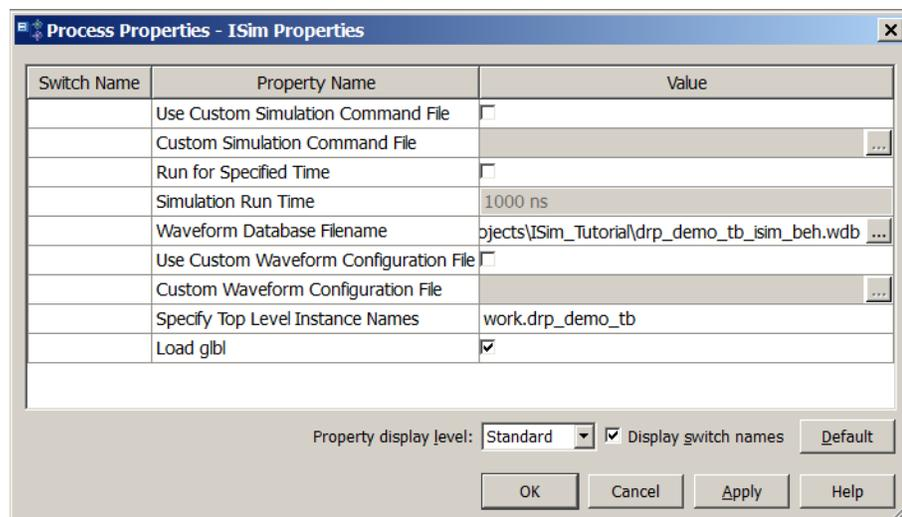

Figure 2-8: ISim Properties Dialog Box
- Right-click **Simulate Behavioral Model** under the ISim Simulator process and select **Process Properties**. The ISim Properties dialog box opens (Refer to Figure 2-8).